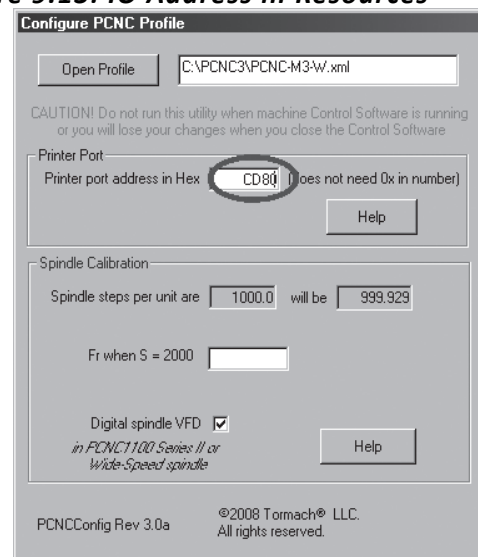

Figure 9.14: Entering Port Address
9. Finally, run the PCNCConfig program and open the PCNC3 profile (details in section 9.5.8 above) and enter this number under the “Printer Port” heading (figure 9.14).